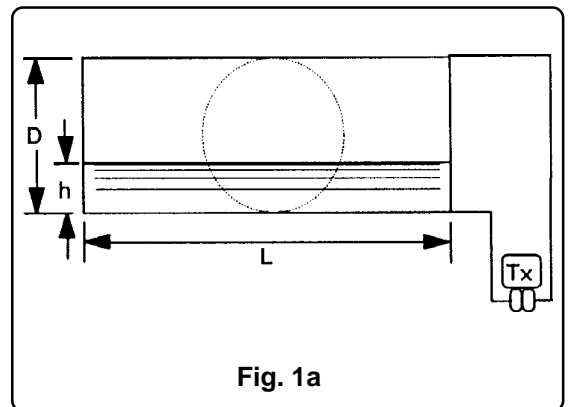

Fig. 1a
a) Cylindrical vessel with flat ends (not often used. Fig. 1a). Transmitter measuring the whole vessel height.